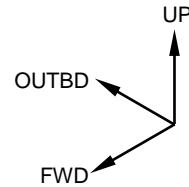

Figure 10
3. Drill three 3 x \varnothing .221 and 6 x \varnothing .125 at their marked locations. Reference Figure 10, 11 & 12.